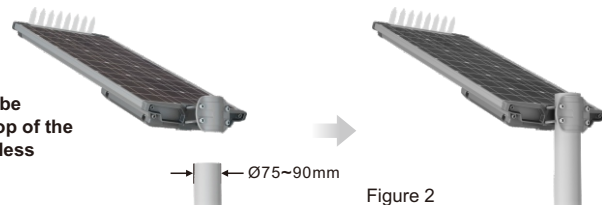

Figure 2
- 3 Fit solar light onto pole and make sure it is securely fastened with M8 screws. (See Figure 2). **The maximum torque for those M8 bolts is 14Nm.** Do not surpass this torque specification.